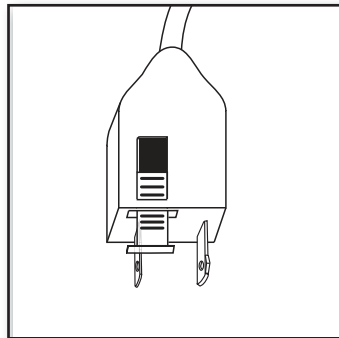

Figure 2
2. Open fuse cover. Slide open fuse access cover on top of attachment plug towards blades. Figure 2.